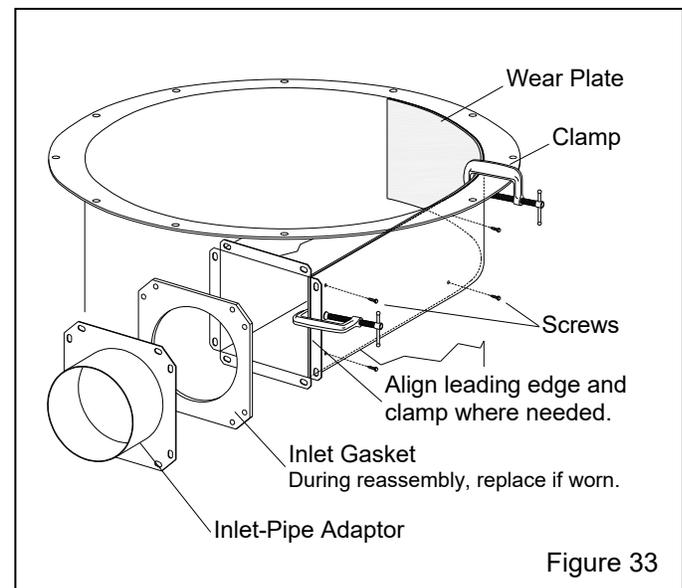

Figure 33
**7.12.5** Angle the new wear plate into the reclaimer inlet and position it so the straight end is flush with the inlet. Use locking pliers, clamps, or other means where needed to pry the wear plate against the side of the inlet and inner wall, as shown in Figure 33. Make sure the leading edge of the wear plate is aligned with the reclaimer inlet and that the top edge is even with the top of the reclaimer.